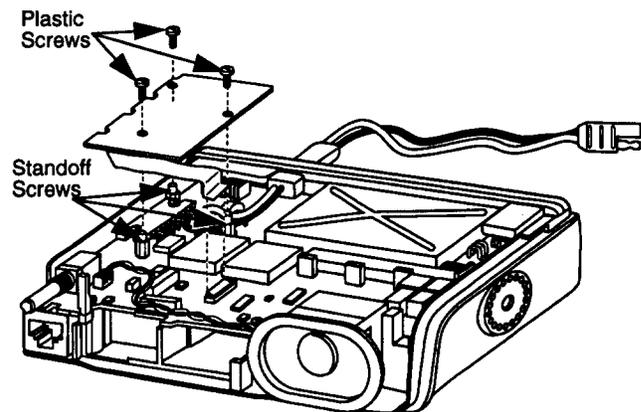

Figure 1-8. Position of Advantage Board
9. With the component side of the option board facing down, position the holes of the Advantage Board over the standoff screws on the main board (Figure 1-8).